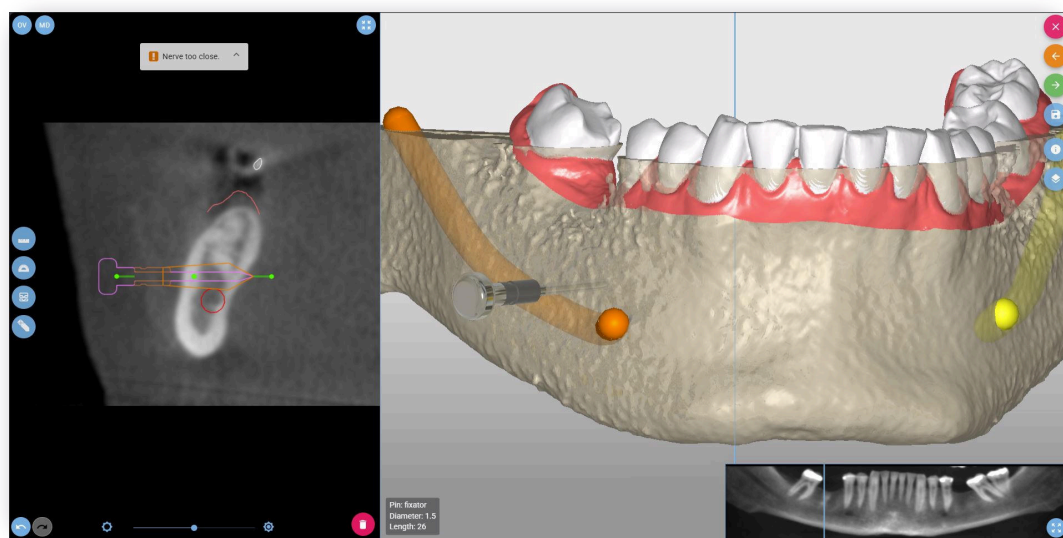

Figure 49: The fixation pin may penetrate the nerve canal.
- A fixation pin may penetrate the canal of the alveolar nerve (Figure 49).